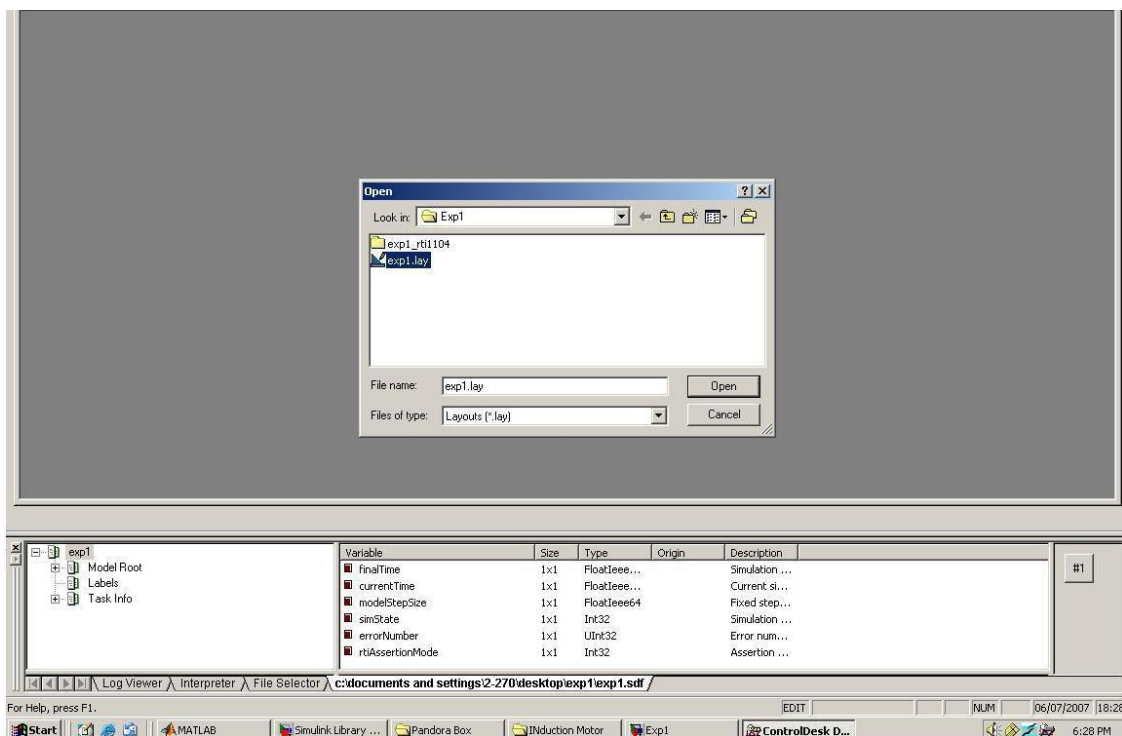
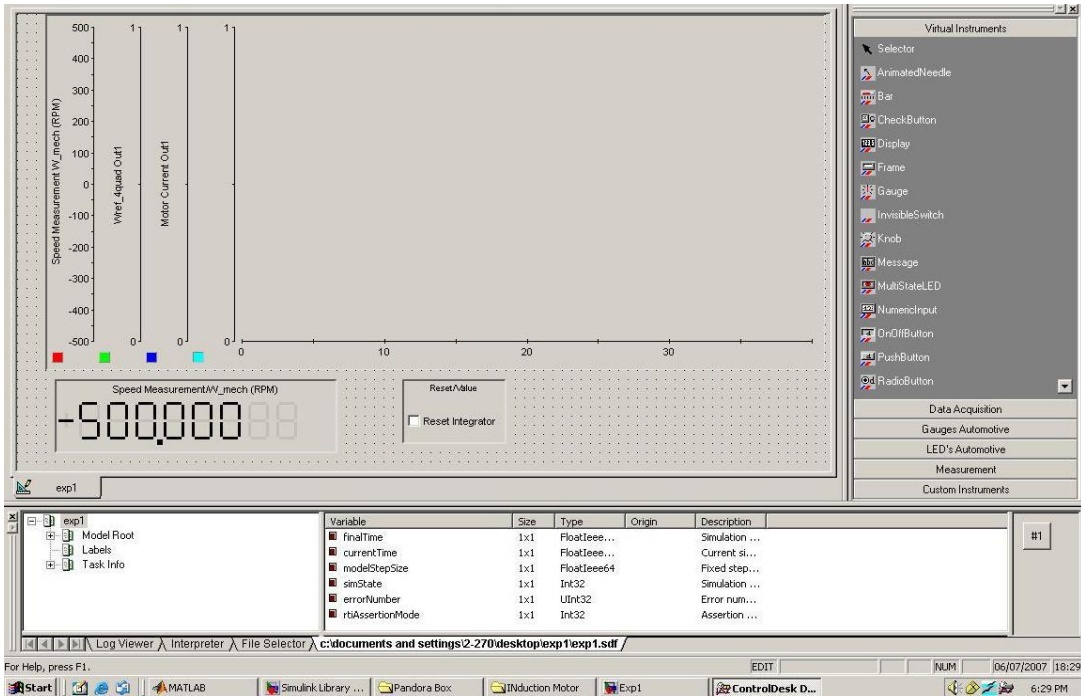
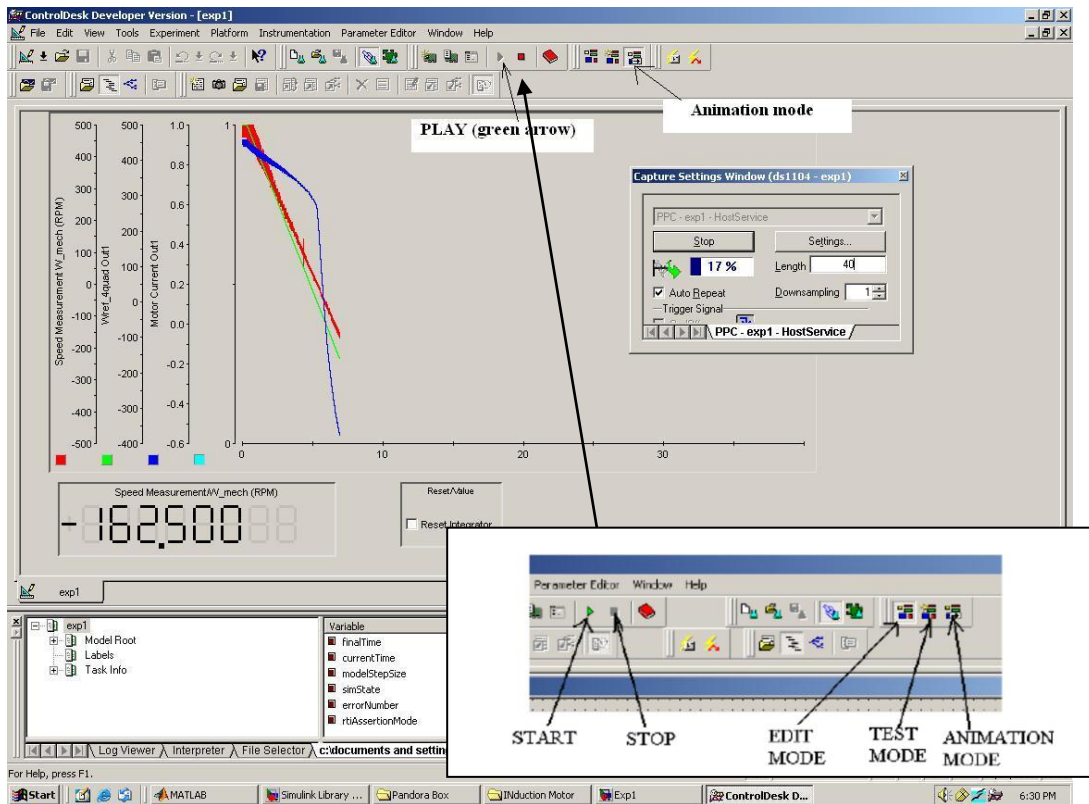
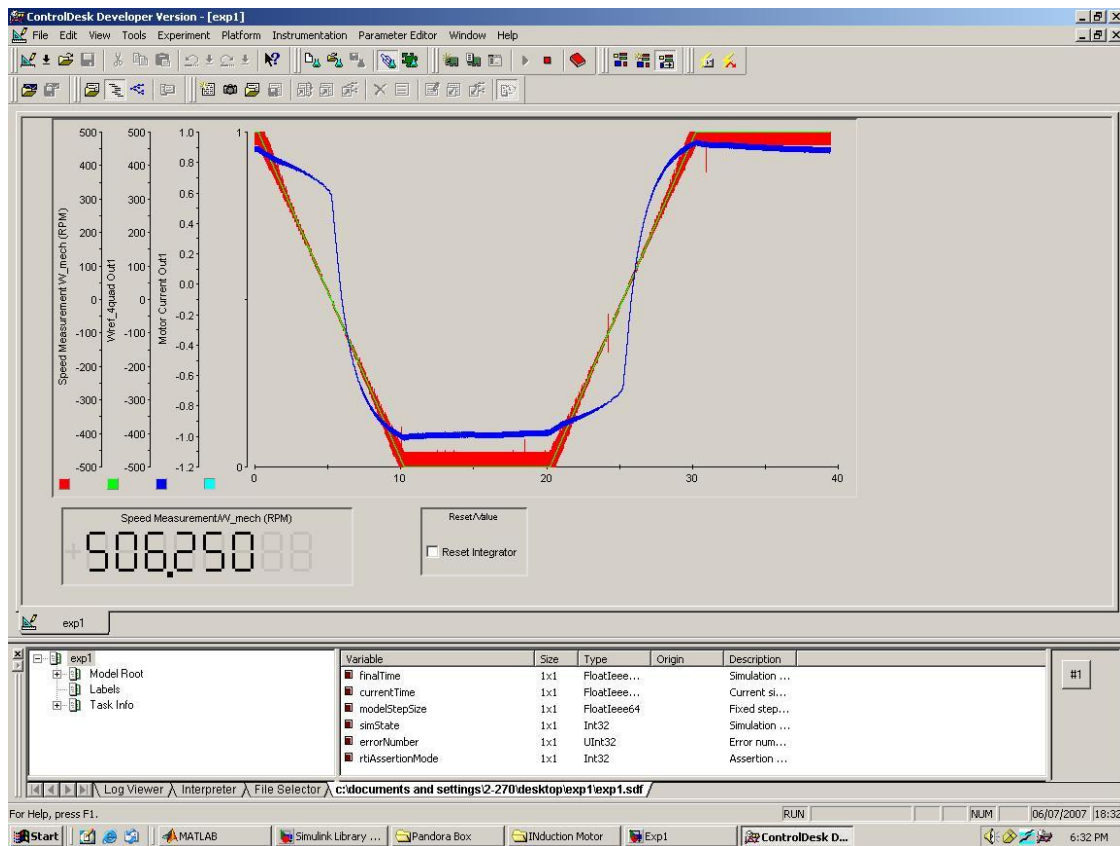

Figure 1.7: Control-desk panel, opening the layout
Figure 1.8: Control panel layout
Figure 1.9: Various control buttons, starting and stopping the system
Figure 1.10: Motor actual speed (red), reference speed (green) and phase current (blue)
- Check the folder **Exp1**; this should contain the file **Exp1.sdf** in addition to the other system files. Leave them as such for the proper operation of Control-desk. Open Control-desk by double clicking on the **dSPACE Controldesk** icon. The icon should be located on the desktop of the computer; the opened control-desk is shown in Fig 1.7 (ignore the lower panel window shown in Fig. 1.7 at this moment, and also the pop-up window showing Exp1.lay). Click **File->Open Variable File**. A pop-up window will appear, locate the **Exp1.sdf** file in the directory **Exp1** and click **Open**. Now you should be able to see the lower panel window shown in Fig 1.7. Click **File->Open**, the pop-up window will appear again asking for layout file this time. Locate the file **Exp1.lay** as shown in Fig 1.7 and click **Open**. Click **yes** if a pop-up box opens asking for data-connection. The layout thus opened should look as shown in Fig. 1.8. At this stage the control panel of the control-desk is ready to communicate or transfer data with DS1104 via CP1104. Click **Start (PLAY)** and switch to the **Animation mode**. The motor will start running. It will rotate in the positive direction for some time and in the negative direction for some time, i.e. the direction of rotation alternates. Right click on the graph and select **edit capture** setting, and set the capture setting as shown in Fig 1.9.
- You should be able to observe the speed of the motor on control panel (Fig. 1.9). The waveform for motor phase current, reference speed and actual speed is also shown. Press the button **Edit mode** and then press **STOP**. Take the waveform as shown in Fig 1.10. Study the explanations detailed next. The control-desk is able to access the following data with the help of **Exp1.sdf** file:
- The motor will receive the PWM voltage at its terminals and hence start rotating. It will speed up; the current in the winding will increase. Since the speed and the current of the motor thus increased are fed back to DS1104 in real-time, the DS1104 will take the next action as per **control-system**. DS1104 will change the pattern of digital signal to change the speed of the motor such that the motor will achieve the speed as commanded in the **control-system** (block **Wref\_4quad**). Note that, the speed command in **control-system** is alternating; hence the motor alternates its direction of rotation. The instantaneous motor speed and current is shown in Fig 1.10.